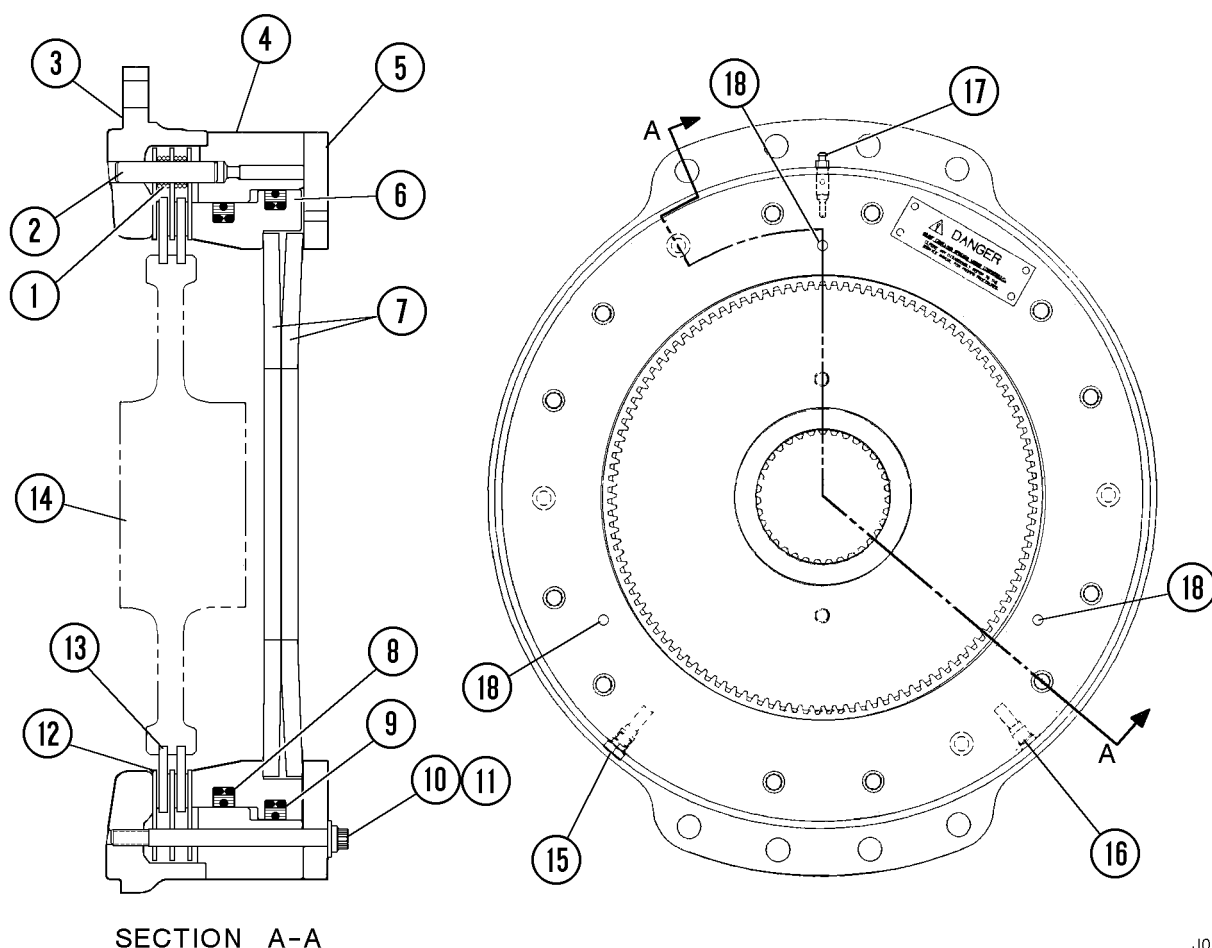

FIGURE 7-5. PARKING BRAKE ASSEMBLY
1. If dowel pins (2, Figure 7-5) have been removed, press new dowel pins into the holes in housing (3) until they are fully seated against the shoulder.
2. Install one separator disc (12) over the dowel pins. Insert one compression spring (1) over the dowel pins. Insert one friction disc (13).
3. Install second compression spring (1) over the dowel pins. Install one separator disc (12) over the dowel pins. Insert second friction disc (13). Install remaining separator disc (12) over the dowel pins.
4. Assemble seals (8) and (9) on the piston:
5. Lubricate the piston seals and insert piston (6) into piston housing (4).
6. Install piston/housing assembly over the dowels in housing (3).
7. Place belleville springs (7) in the piston counterbore as shown in Figure 7-5.
8. Place end cap (5) on the assembly and insert capscrews (10) with hardened washers (11). Do not tighten the capscrews.
**NOTE:** If a new wheel motor is installed or adapter gear (14, Figure 7-5) is replaced, clean the rust preventive coating from the adapter gear teeth with an organic-based cleaning solvent as detailed previously. Do not install the parking brake until the adapter gear is completely dry.
5. Connect a clear plastic hose to bleeder screw (17, Figure 7-5). Place the other end of hose into a container.